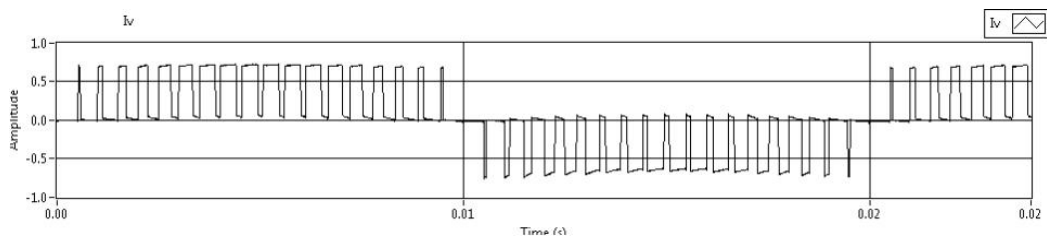

Figure 24 Measured load current I_v
26. Confirm correct waveform is obtained in the load current, I_v . Compare with Figure 24.